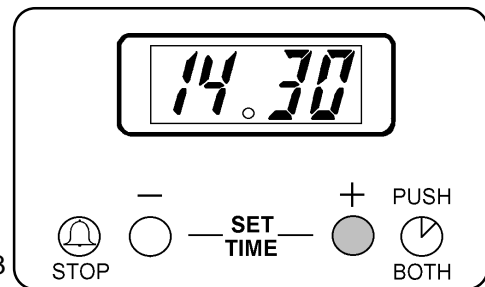

Fig. 4
To set, press button (1) and the display will read 0:00. See Fig. 4.